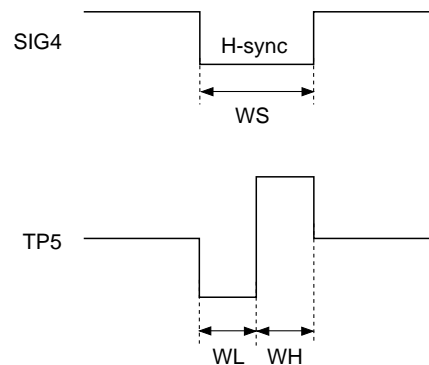

Fig. 1-3. Horizontal AFC adjustment (when using an external VCO)
Input SIG4 (VL = 0mV) to (A) and adjust VR1 so that WL = WH in the TP5 phase comparison output waveform. (See Fig. 1-3.)